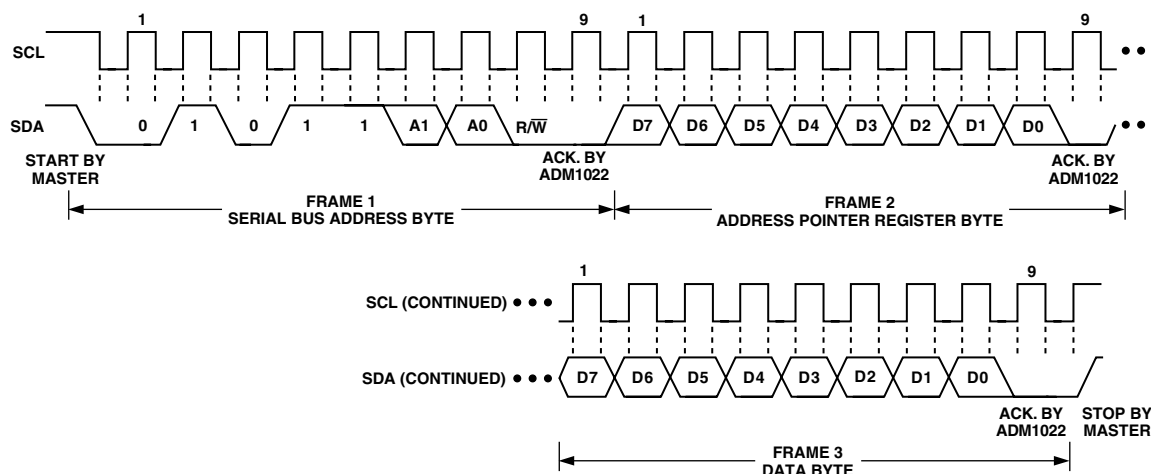

Figure 11a. Writing a Register Address to the Address Pointer Register, then Writing Data to the Selected Register
This is illustrated in Figure 11a. The device address is sent over the bus followed by $R/\overline{W}$ set to 0. This is followed by two data bytes. The first data byte is the address of the internal data register to be written to, which is stored in the Address Pointer Register. The second data byte is the data to be written to the internal data register.
2. In Figures 11a to 11c, the serial bus address is shown as the default value 01011(A1)(A0), where A1 and A0 are set by the three-state ADD pin.